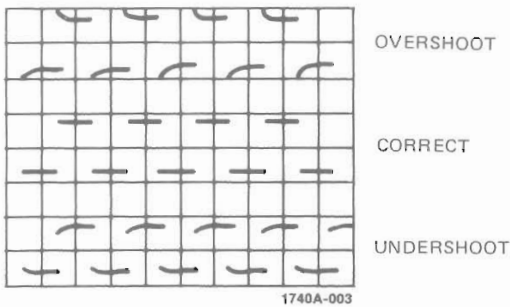

Figure 3-2. Probe Compensation
d. If overshoot or undershoot is present, turn screwdriver adjustment in probe for a flat-top presentation (see figure 3-2).